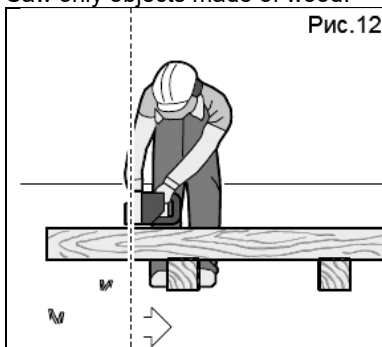

Рис.12
- Lay the branch/board as shown and ensure that it is supported so that the cut does not narrow and the saw chain cannot clamp (Figure 12).